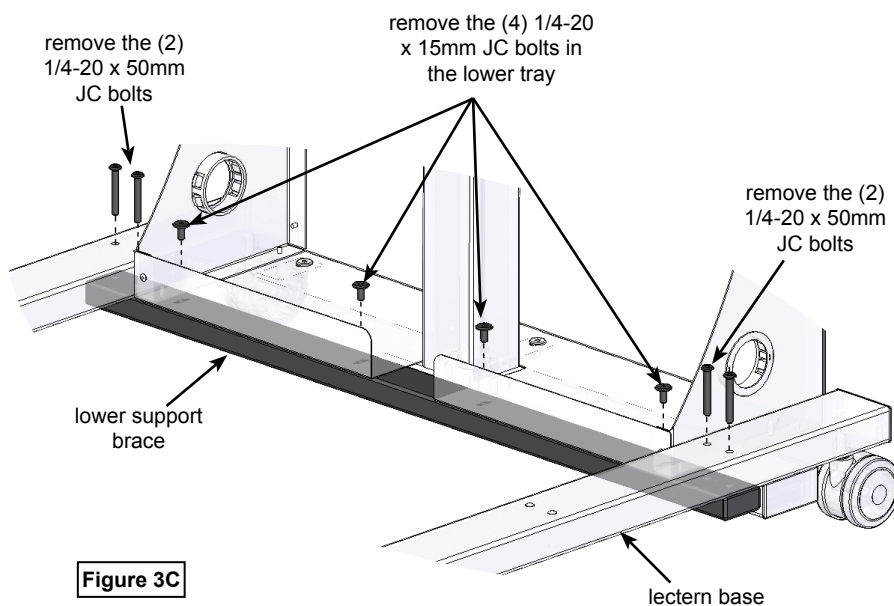

**Figure 3B**
6. Carefully lift and tip up the equipment rack. Be careful not to apply any side load to the casters while tipping as it could cause damage. **Figure 3B.**